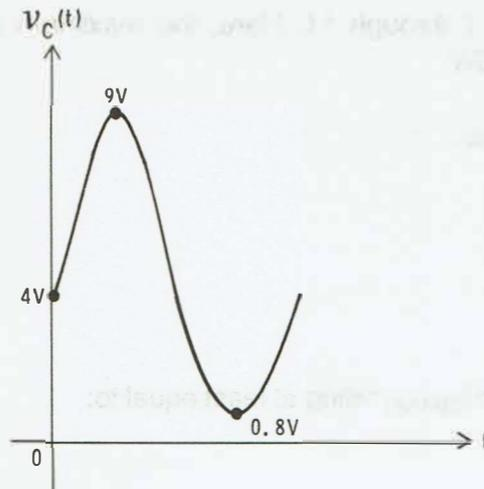

Figure 5-39
Refer to Figure 5-39 for questions 12 through 14.
12. D — In Figure 5-39, $V_{\text{MAX}} = 9\text{V}$, $V_{\text{MIN}} = 0.8\text{V}$, and $V_{\text{Q}} = 4\text{V}$. Thus: